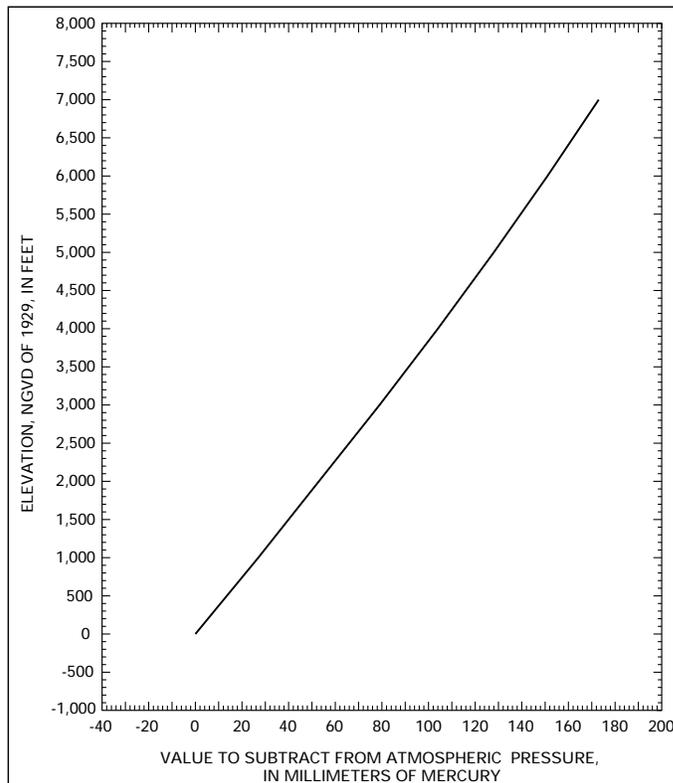

Figure 6.2-1. Factors used to correct atmospheric pressures adjusted to sea level.
- ▶ Use table 6.2-2 and figure 6.2-1 if the value used for atmospheric pressure has been adjusted to sea level.
- ▶ To correct weather station readings adjusted to sea level to ambient atmospheric pressure: subtract appropriate values shown (table 6.2-2, fig. 6.2-1) from atmospheric readings adjusted to sea level (shown in millimeters of mercury).